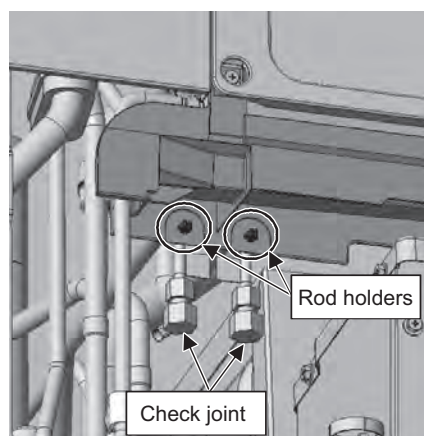

Figure 4
To remove the rest of the components from the pillar, unscrew the two screws indicated with Arrow (C) in Figure 4.
[Figure 4]
- (3) Remove the two rod holders holding the check joints in place, using a wrench. (See Figure 4.)